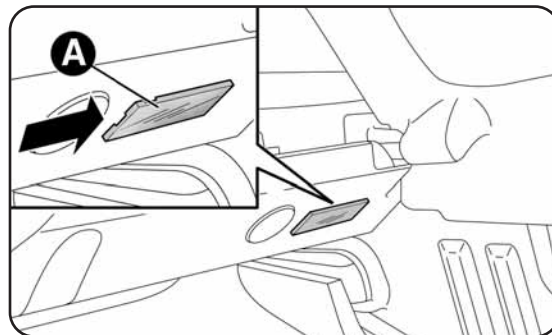

fig. 33
- open the luggage compartment and remove courtesy light A-fig. 33, by applying leverage at the points shown by the arrows;
- refit courtesy light A-fig. 33, inserting it into the correct position firstly on one side and then on the other until it clicks into place.